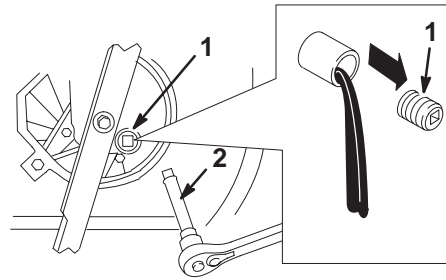

Figure 28
5. Remove the oil drain plug, return the lawn mower to its operating position, and allow the oil to drain into the drain pan (Fig 28).